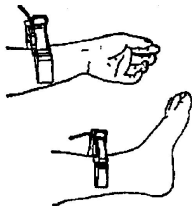

Figure 18
- ◆ When the limbs electrodes are installed, the electrodes should be fixed to tenderness skin of feet and hands. Clean the skin where the electrode is fixed with alcohol, then lay a little conductive paste to the skin. The side which has sheet metal should be placed to the inside of the limbs (As Figure 18).